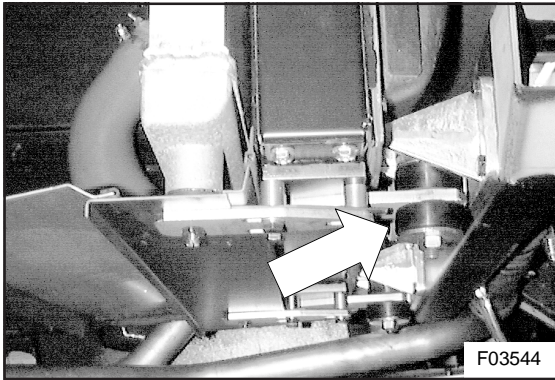

Figure 29: Radiator buffer: left
33. Unscrew and remove the radiator buffer retaining nuts (see Figures 29 and 30). Withdraw the large plain washers and rubber buffer halves.